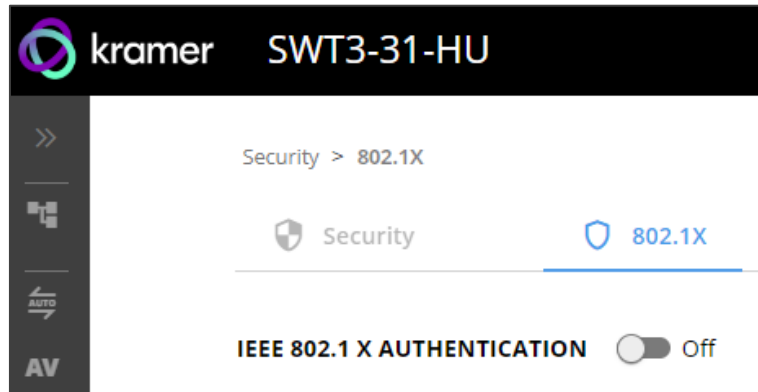

Figure 42: 802.1X Tab
2. Select **802.1X** tab. The 802.1X settings tab appears (see Figure 42).